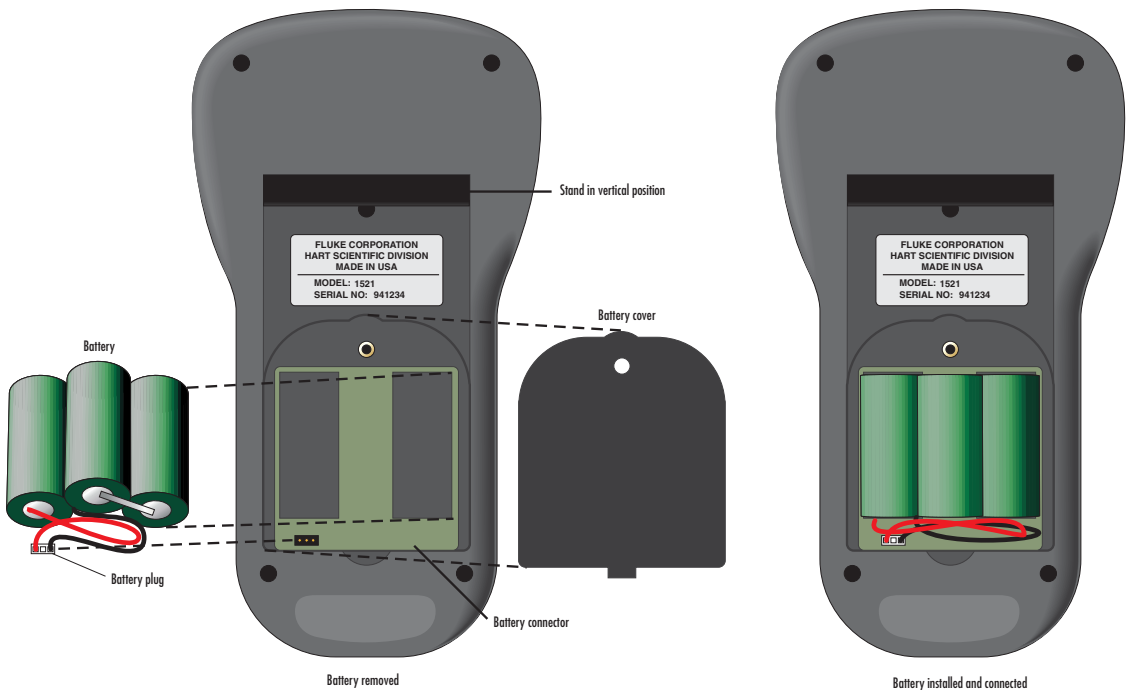

Figure 4 Battery Installation
See Figure 4 on page 19.
2. With the 1521 facing down, lift the stand to expose the battery cover (see Figure 4). Remove the battery cover screw with a small Philip's screwdriver. Place the screw in a safe place so it won't get lost. Remove the battery cover to access the battery pack.
4. Attach the polarized plug of the new battery pack onto the connector in the same direction as before (see Figure 4 on page 19). Place the battery pack in the battery compartment.